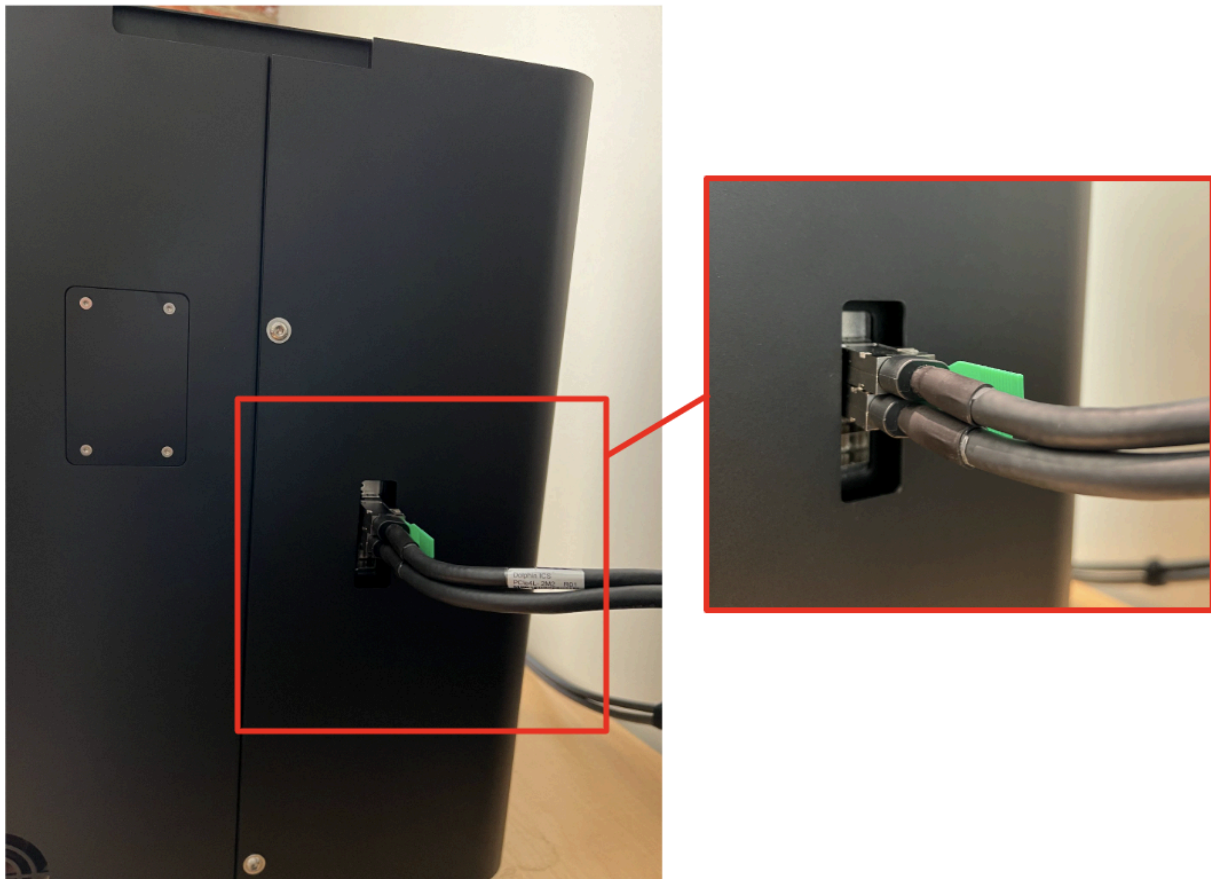

Fig 82: Dolphin cables with green flaps for removal.
- 2) By pulling **perpendicularly** to the MCAM using the green flaps, disconnect the SFF-8644 cables (see Fig 82 for reference) from both the MCAM workstation and MCAM.